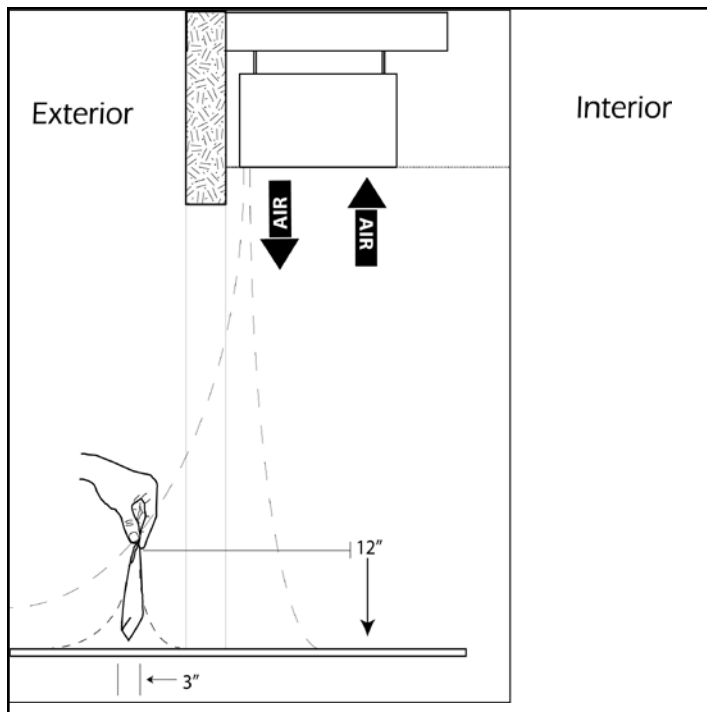

Figure 5
2. Find the air stream split location. Hold a handkerchief by its corners, approximately 12" above the floor. Gently move the handkerchief back and forth in the doorway. Make sure the air is being directed to both the inside and the outside. **See Figure 5.** The split location is indicated where the handkerchief is vertical with minimal or no fluttering.